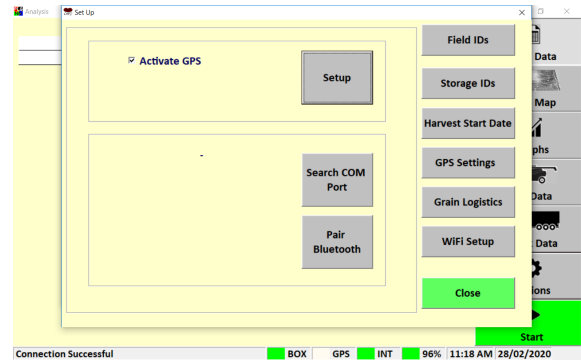

Figure 3-12. Setup - GPS Settings Screen.
- Press the **Setup** button to access the GPS Message test window as shown in figure 3.12 and 3.13.